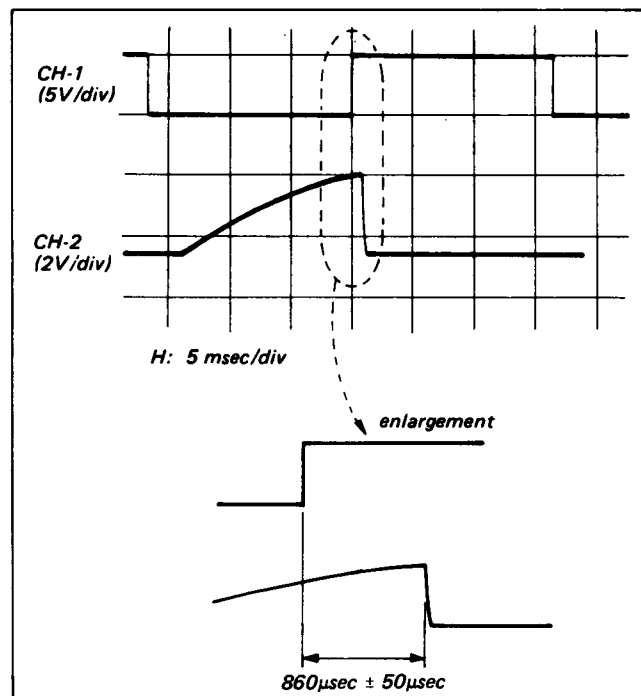

Fig. 5-11. Tracking center adjustment
- (1) Set the TRACKING knob to the center click position.
- (2) Adjust to 860  $\mu$ sec  $\pm$  50  $\mu$ sec with RV508. (See Fig. 5-11)